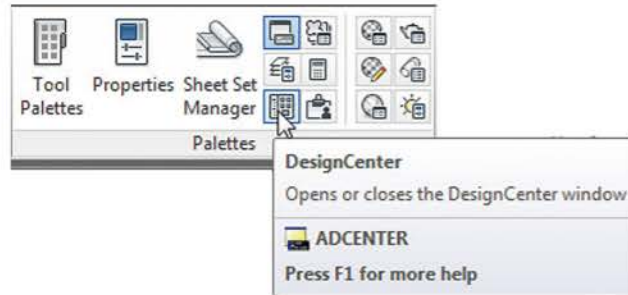
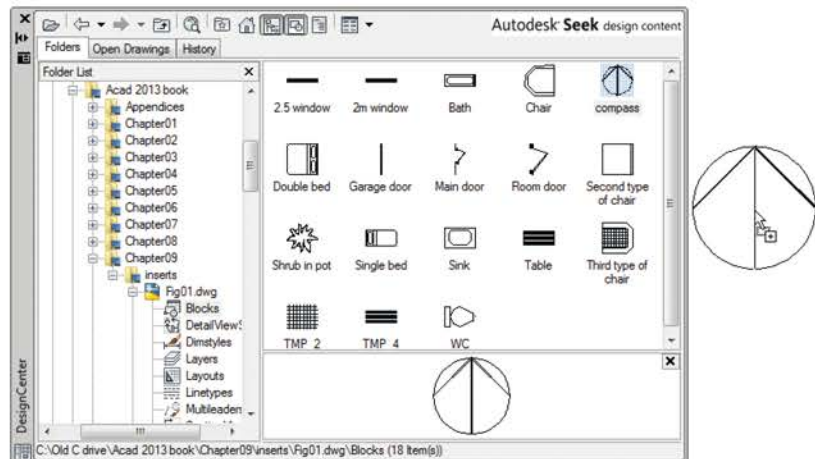

Fig. 13.9 Selecting Design Center from the View/Palettes panel
Fig. 13.10 The DesignCenter with the compass block *dragged* on screen
2. *Left-click* Design Center in the View/Palettes panel (Fig. 13.9) or press the **Ctrl+2** keys. The DesignCenter palette appears on screen. Fig. 13.10 shows the DesignCenter with the compass block *dragged* on screen.